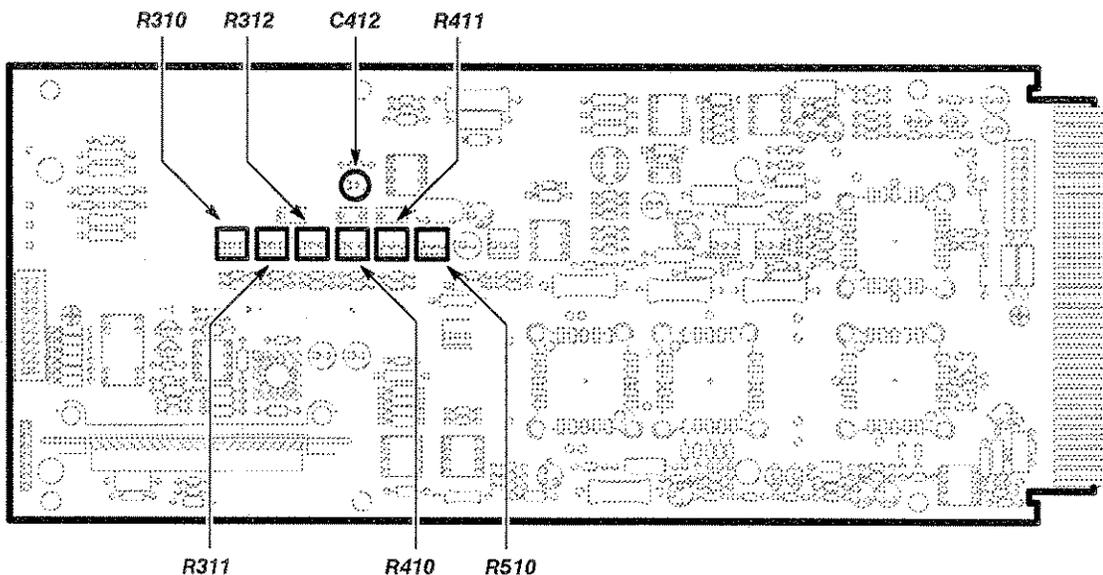

Figure 2-3 -- A1 Main Board Low-Frequency Response Adjustment Locations
- Step 3: *Adjust* compensation adjustments, R410 and R411 on the A1 Main board, for a flat top on the dim waveform as compared to the bright waveform. See Figure 2-3 for adjustment locations.
- Step 9: *Adjust* compensation adjustment, R311 and R312 on the A1 Main board, for optimum square-wave flat top. See Figure 2-3 for adjustment locations.
- Step 15: *Adjust* compensation adjustment, R310, R510, and C412 on the A1 Main board, for optimum square-wave flat top. See Figure 2-3 for adjustment locations.
- Step 3: *Adjust* compensation adjustments, R410 and R411 on the A1 Main board, for a flat top on the waveform. See Figure 2-3 for adjustment locations.
- Step 7: *Adjust* compensation adjustment, R311 and R312 on the A1 Main board, for optimum square-wave flat top. See Figure 2-3 for adjustment locations.
- Step 11: *Adjust* compensation adjustment, R310, R510, and C412 on the A1 Main board, for optimum square-wave flat top. See Figure 2-3 for adjustment locations.